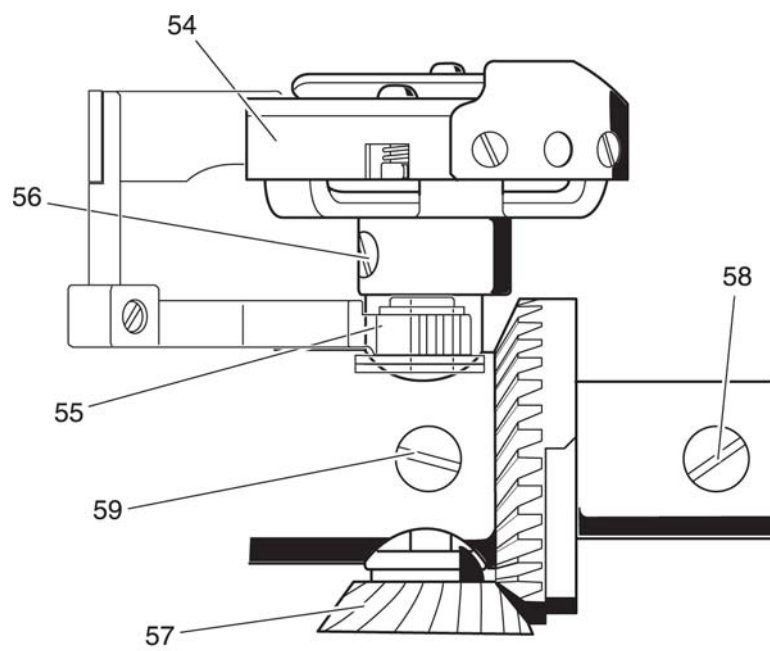

Fig. 13a
- Check the play of hook 54 to hook shaft bushing 55 (fig. 13a).